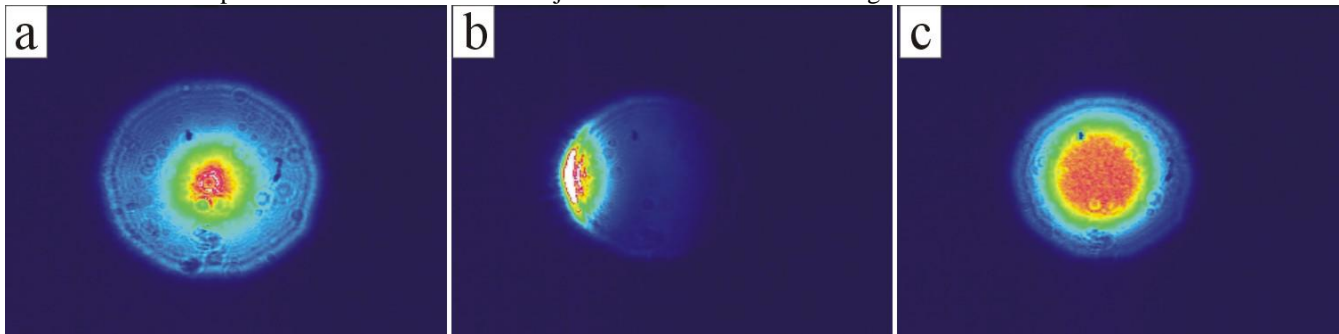

FIGURE 11:
9. The beam diverges beyond its focus and it should pass through the center of iris 2. If it does not the lateral and vertical positions of L1 must be adjusted. FIGURE 11: shows (a) the beam profile before L1 is inserted into the beam, the beam is concentric with the iris, and (b) the beam profile immediately after L1 is inserted into the beam. The beam does not pass through the middle of the lens leading to misalignment on iris 2. FIGURE 11: (c) shows the beam profile after the lateral position of the lens has been adjusted and the beam is once again concentric with the iris.